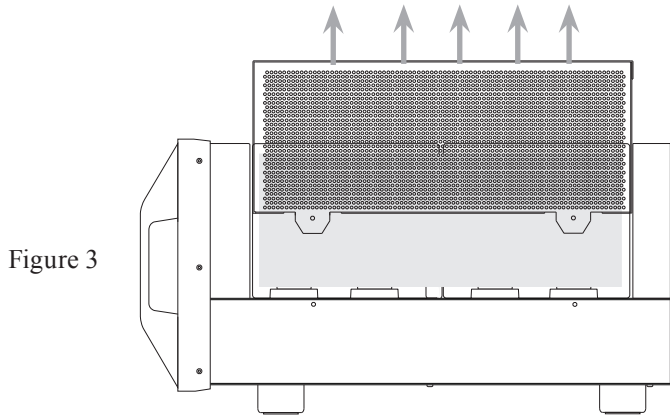

Figure 3
3. Carefully lift up and remove the Tube Cover from each side of the MC2301. Refer to figure 3.